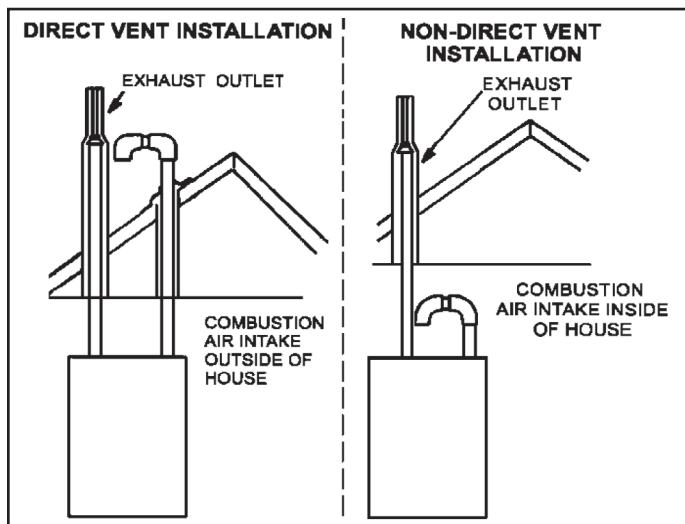
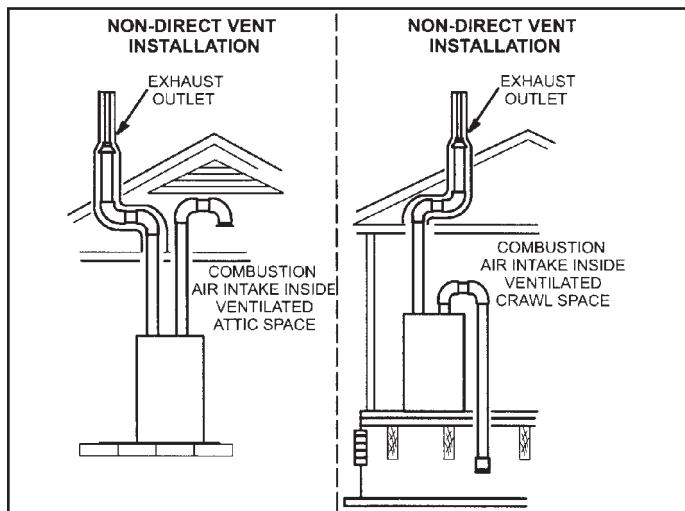

Figure 2.
Figure 3.
**NOTE:** *In Direct Vent installations, combustion air is taken from outdoors and flue gases are discharged outdoors. In Non-Direct Vent installations, combustion air is taken from indoors or ventilated attic or crawlspace and flue gases are discharged outdoors. See Figure 2 and Figure 3 for applications involving roof termination.*